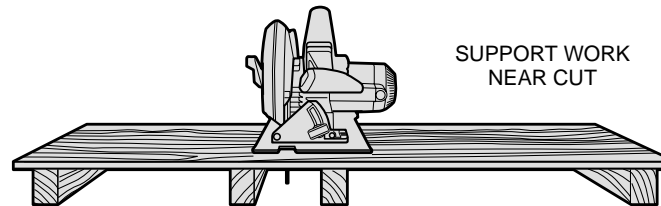
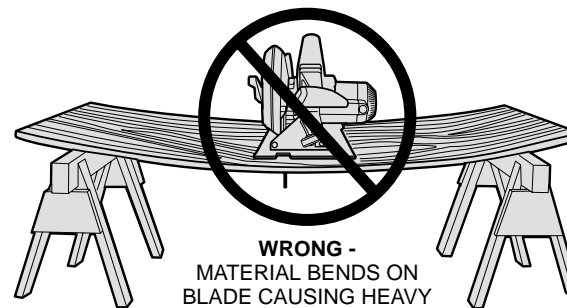

FIG. 16
FIG. 17
- **SUPPORT LARGE PANELS.** Large panels must be supported as shown in Figure 16 to minimize the risk of blade pinching and kickback. When cutting operation requires the resting of the saw on the work piece, the saw shall be rested on the larger portion and the smaller piece cut off.
- **GUARD AGAINST KICKBACK.** Kickback occurs when the saw stalls rapidly and is driven back towards the operator. Release switch immediately if blade binds or saw stalls. Keep blades sharp. Support large panels as shown in Figure 16. Use fence or straight edge guide when ripping. Don't force tool. Stay alert-exercise control. Don't remove saw from work during a cut while the blade is moving.
To avoid kickback, **DO** support board or panel **NEAR** the cut, (Figure 16). **DON'T** support board or panel away from the cut (Figure 17).
- B. Cutting through material supported at the outer ends only (see Figure 17). As the material weakens it sags, closing down the kerf and pinching the blade.